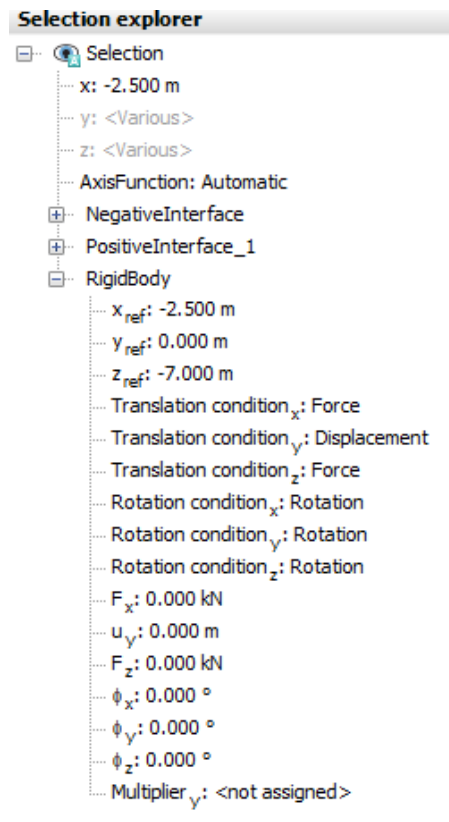

Figure 46: Rigid body in the Selection explorer
16. As displayed in Figure 46 (on page 68) set the Translation conditiony to **Displacement**, the Rotation conditionx and Rotation conditionz to **Rotation**. Their corresponding values are  $u_y = \phi_x = \phi_z = 0$ .